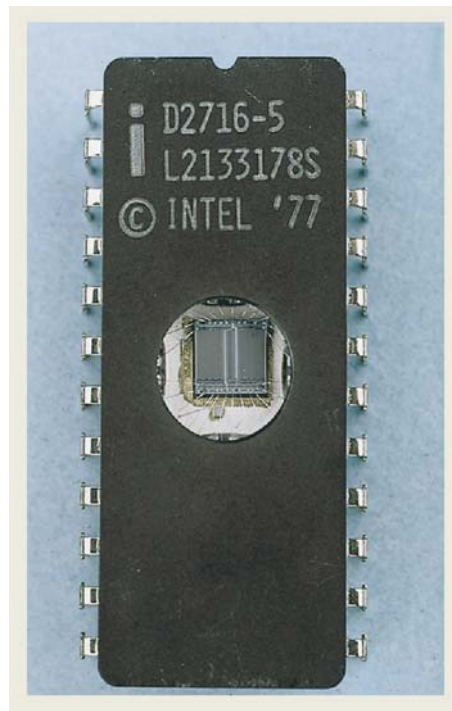

Figure 16 A 2716 EPROM IC showing the window that allows UV light to strike the memory cells for erasure.
When using mask ROMs or PROMs, if you need to make a change in the memory contents or if you make a mistake in the initial programming, you are out of luck! One solution to that problem is to use an erasable PROM (EPROM). These PROMs are erased by exposing an open “window” (See Figure 16) in the IC to an ultraviolet (UV) light source for a specified length of time.